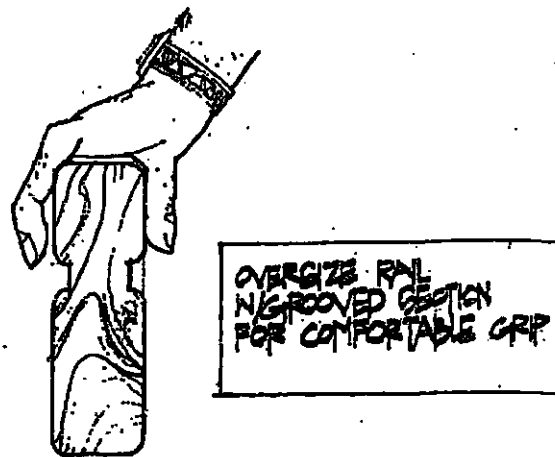

FIG. 2.31 HANDRAIL GRIPS
- 2.31 A handrail with a 1-1/2" diameter provides the user the most satisfactory grip. Where a larger handrail is desired, a similar shape can be achieved by grooves cut in the larger section (see Fig. 2.31).